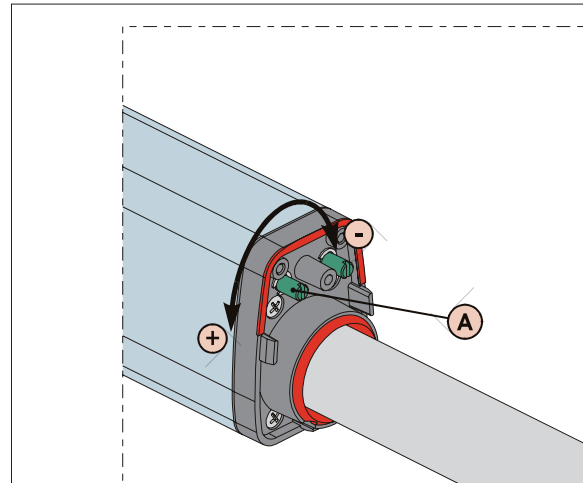

Fig. 20
- 3) To adjust the **opening limit switch FCA** turn the adjusting screw counter-clockwise, Fig.20 ref.A, to increase the rod stroke and clockwise to reduce it.